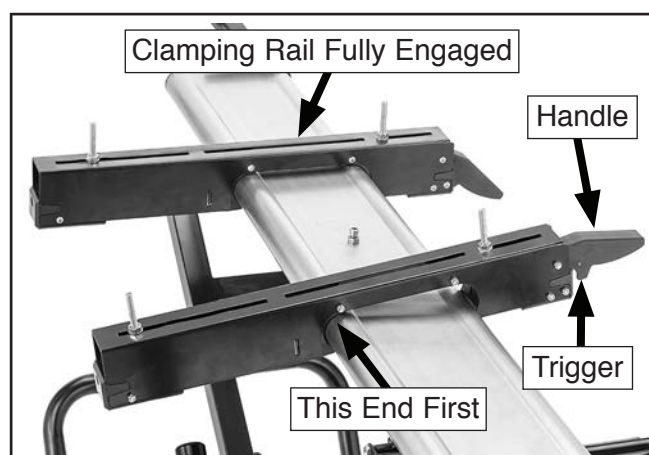
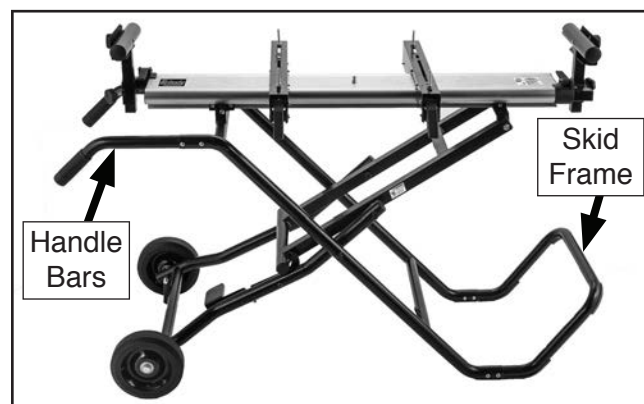

Figure 13. Clamping rail installation.
Figure 14. Assembly complete.
16. Locate (2) handle bars, (4) M6-1 x 45 Phillips head screws, (4) M6-1 lock nuts.
17. Position both handle bars pointing downward, as shown in **Figure 14**, and fasten using screws making sure smooth heads are facing outward.
18. Locate (2) clamping rails, (4) M8-1.25 x 55 carriage bolts, (4) 8mm flat washers, and (4) M8-1.25 lock nuts.
19. Loosely install carriage bolts, washers, and nuts in slots of clamping rails, as shown in **Figure 13**. These fasteners are used for mounting most miter saws.
21. Engage far end of clamping rail on miter stand table as shown in **Figure 13**.
24. Verify that miter stand has been assembled completely, and that it matches what is shown in **Figure 14**.